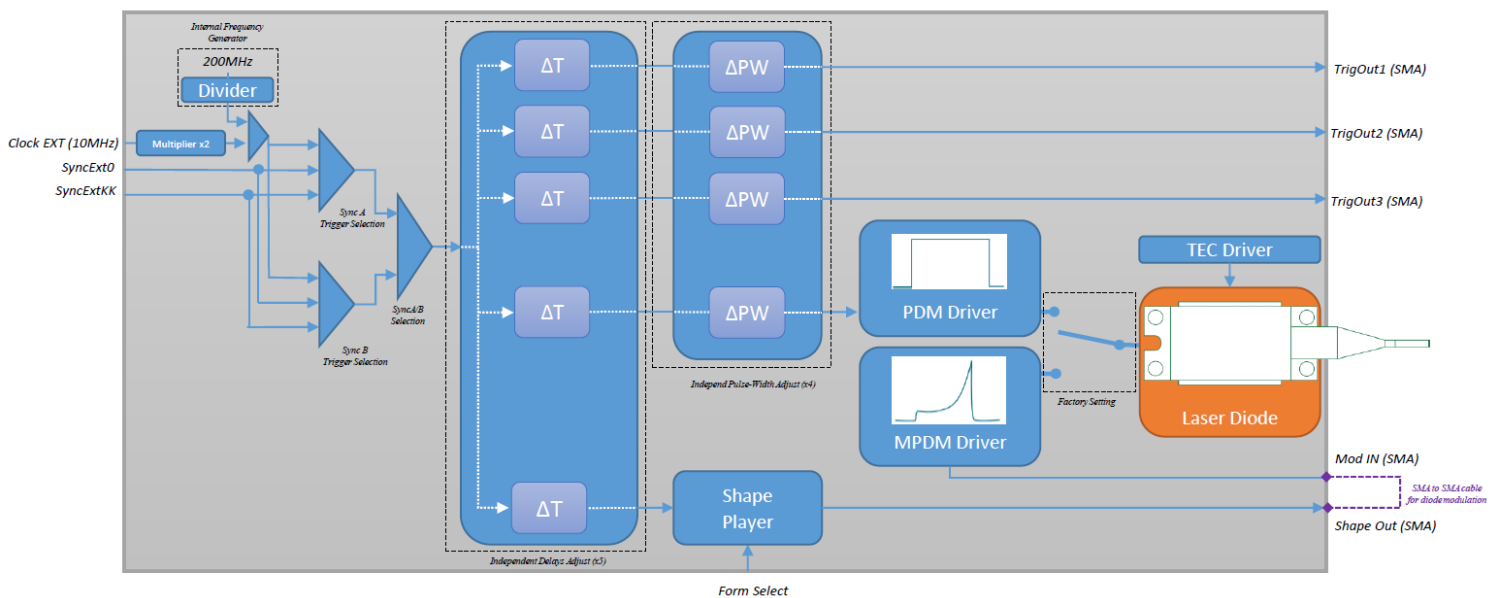

Figure 2 - Shaper Simplified Synoptic
- The "**direct modulation**" mode allows the pulse shape to be applied directly to the laser diode and a new functionality allows the user to remove spurious effects such as "gain switch" relaxation peaks for optimal results. This mode uses the MPDM ("Modulated Pulse-on-Demand Module") Driver (Figure 2).
- The "**external modulation**" mode drives the laser diode with square waveforms and generates a shaping signal that is compatible with external devices such as acousto-optic or electro-optic modulators. This mode uses the PDM ("Pulse-on-Demand Module") Driver (Figure 2). An external amplifier is present.